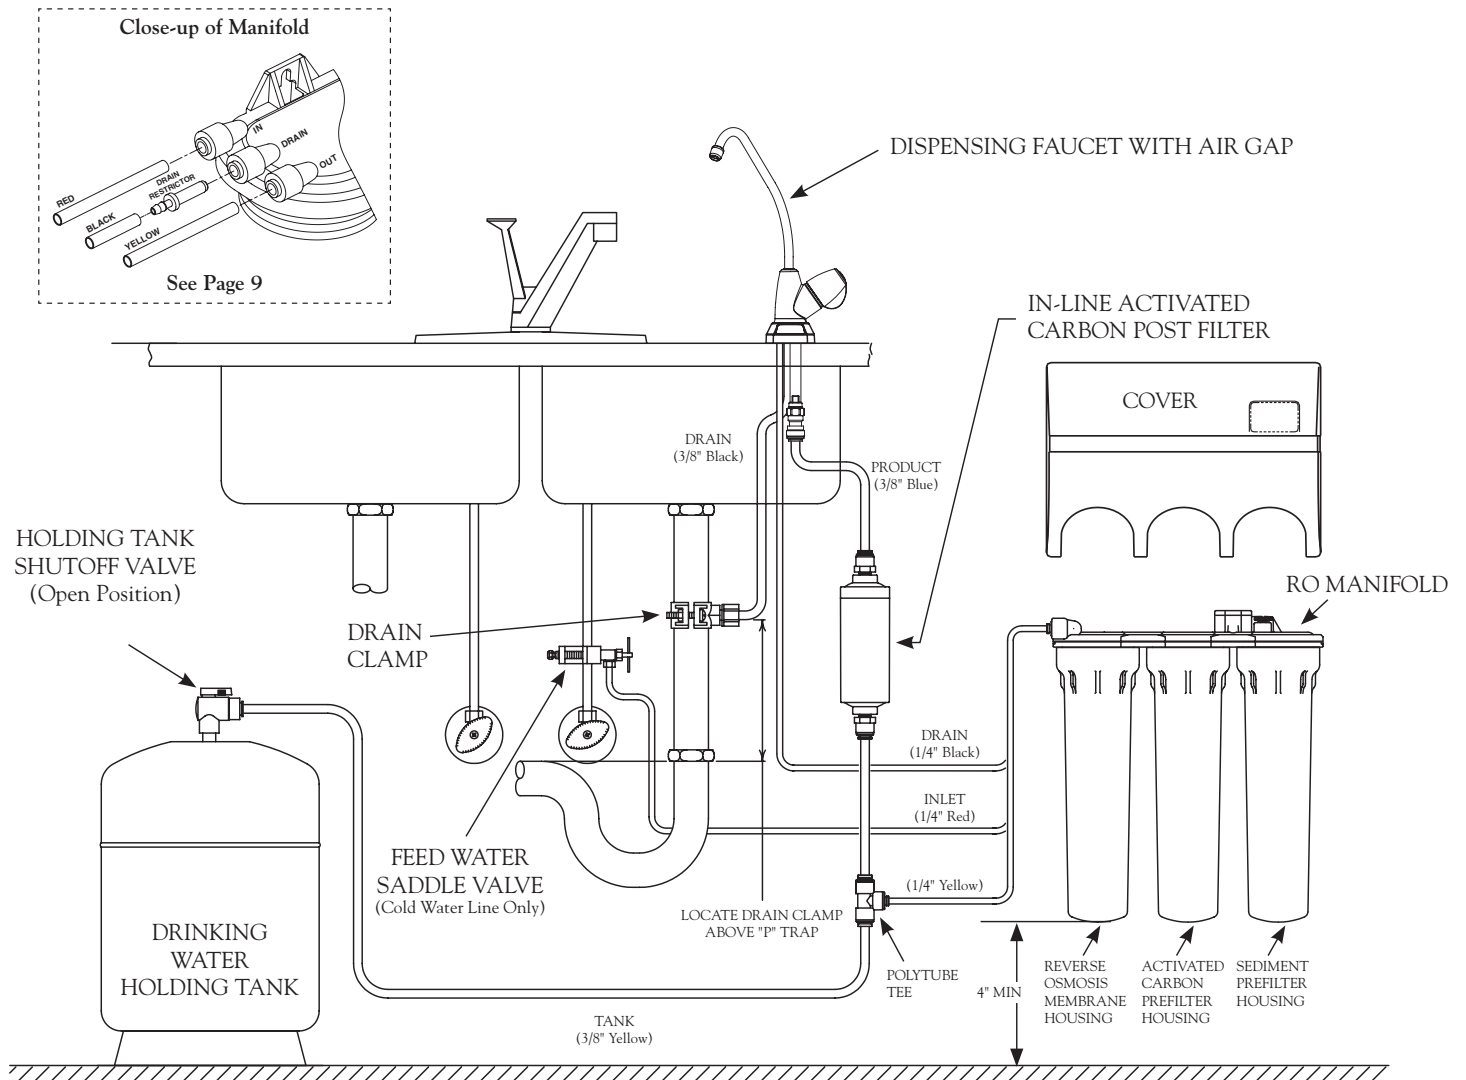

Figure 1
The following are instructions for discharging into the sink drain pipe. (Refer to Fig. 1.)
2. Locate the $\frac{1}{4}$ " Red Feed Water Tubing. Remove the red plug from the fitting labeled "In" on the manifold and insert the tubing. Reference the special supplement sheet in the carton for proper connection of all tubing and removal of plugs. Run the tubing along its course to the Feed Water Saddle Valve, trim to length. (Refer to Fig. 1.)
2. Pull the cap/plug off the top of the tank where the Tank Shut-Off should go. (Refer to Fig. 1.)
4. Locate the ⅜" Yellow Tubing. Firmly press one end into the Holding Tank Shut-Off Valve and the other end into the tee. (Refer to Fig. 1.) The fittings will grab the tubing and seal it in place. Make sure the tubing is pressed all the way in to create a pressure tight connection.
5. Locate the ⅜" Blue Product Water Tubing attached to the Dispensing Faucet. Firmly press one end into the tee. (Refer to Fig. 1.) The fittings will grab the tubing and seal it in place. Make sure the tubing is pressed all the way in to create a pressure tight connection.